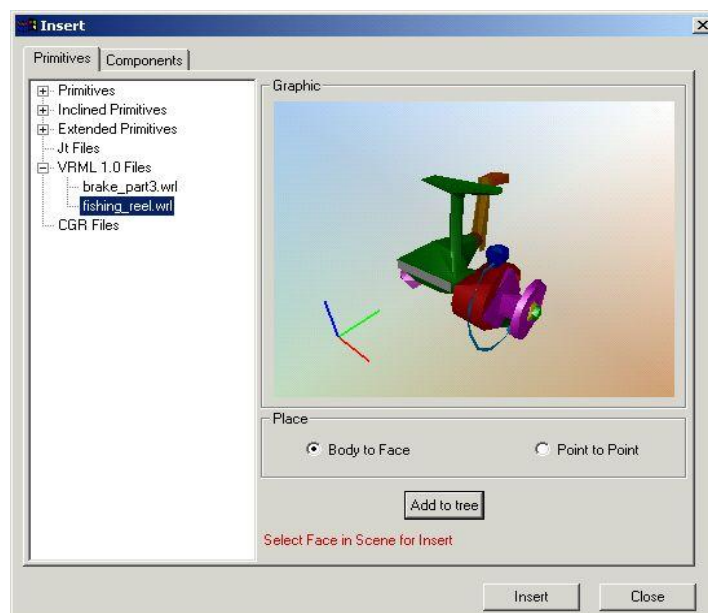

Figure 73: Import File is displayed in the Directory
- 4) Select a file and click **Open** button. The file is imported to the directory of the **Insert** dialog. Please refer to the Figure 73.
- 3) Open the **VRLM** directory. Select a file from the directory. The graphic is always displayed in the form of a preview. Please refer to the Figure 73.